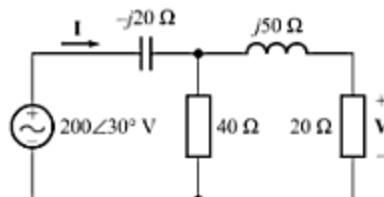

Fig. C-58
- C-89. Use voltage division twice to find \mathbf{V} for the circuit shown in Fig. C-58. [Ans. $81.8 \angle 6.15^\circ \text{ V}$]